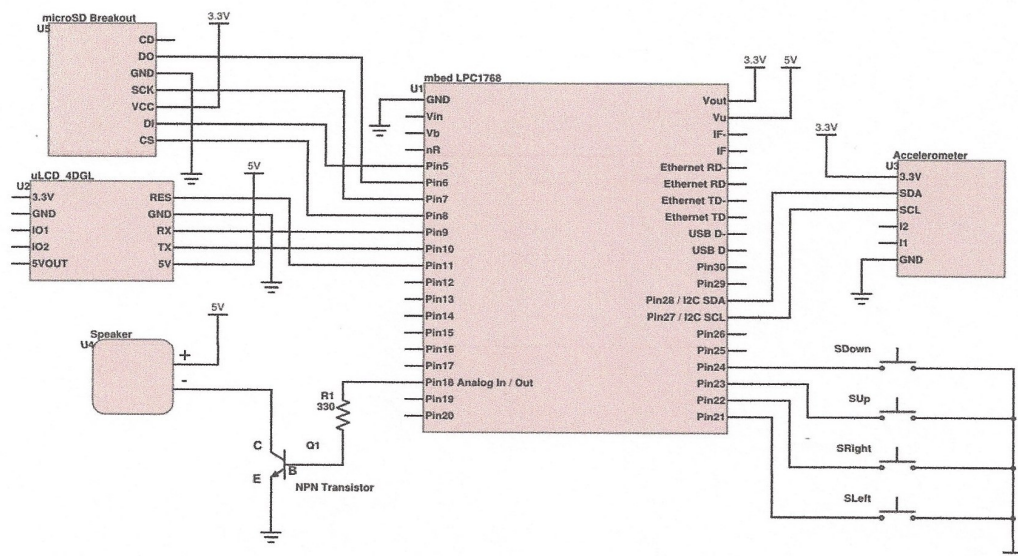

Figure 1: Wiring Diagram *Note the difference between VO and VU. Also be careful to properly orient the BJT transistor (see Fig. 3).*
**Task 5.A:** The first step is to wire up the components that are provided with the mbed. Follow the diagram in Figure 1 to wire the mbed microcontroller to each of the components that we will be using in this project. **Note:** The speaker is connected to pin 18 in the schematic (via a BJT). Change the wire connected to pin 18 to pin 26 to use PWM audio in the audio test below in Task
Once you have successfully created the circuit in Figure 1, downloaded and correctly run the the test program, **demo your working system to a teaching assistant no later than Friday, 13 April 2018 (Friday 6 April recommended)** to get Homework 3 checked off for a grade.